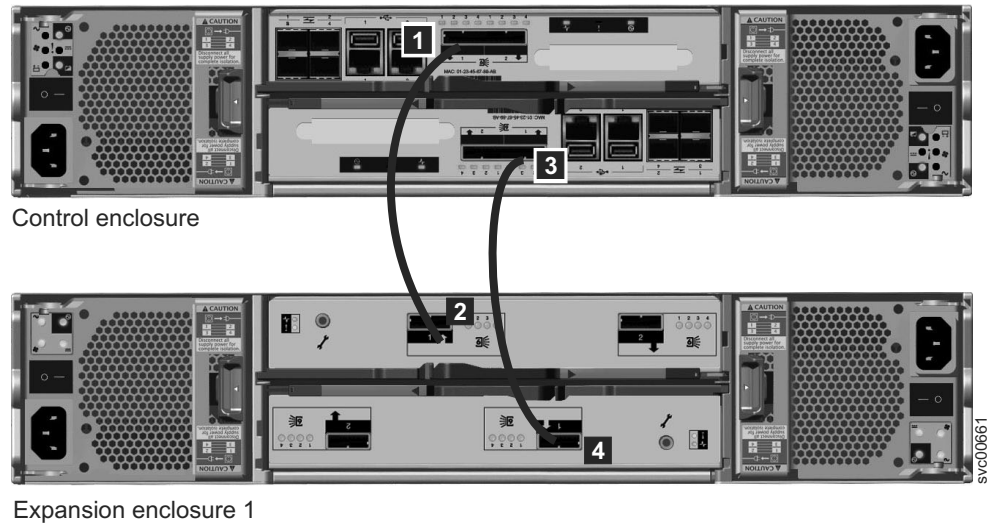

Figure 31. Attaching an expansion enclosure to the control enclosure
2. Attach the SAS cables from the control enclosure to the first expansion enclosure as shown in Figure 31 on page 27. Remove the protective end covers, if necessary. The first expansion enclosure is below the control enclosure.